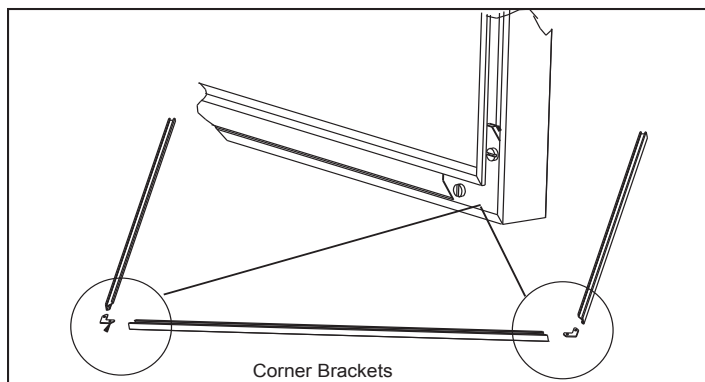

Figure 20.2
2. Using a 4 to 6 inches long Phillips head screw driver attach the side surrounds to the top surround using (2) #8 sheet metal screws on each side provided with the kit. **Figure 20.2.**
4. Using a standard flat screw driver tighten the corner brackets. **Figure 20.2.**
5. Slide the assembled trim set over the surround set. and then over the appliance matching the mounting tabs on the side pieces with the slots on the appliance. **Figure 20.2.**